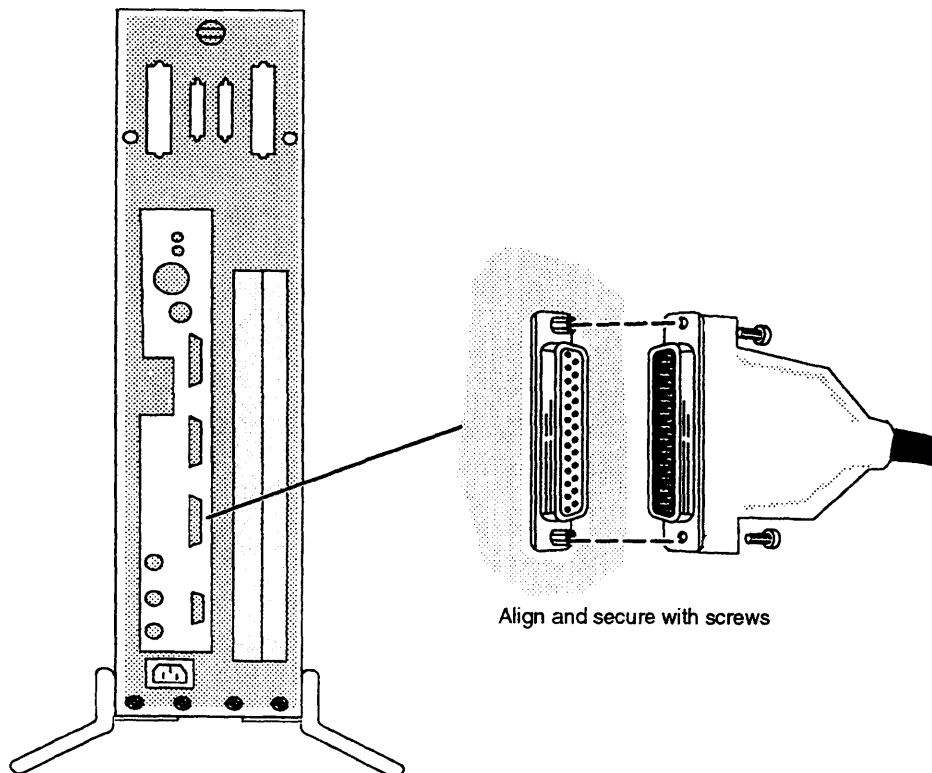

Figure 2-14 Connecting a Parallel Printer to the Computer Unit
1. Plug the 25-pin end of the printer cable into the parallel printer connector on the back of the computer unit as shown in Figure 2-14. Attach the printer cable to the connector by tightening the two screws on the printer cable.